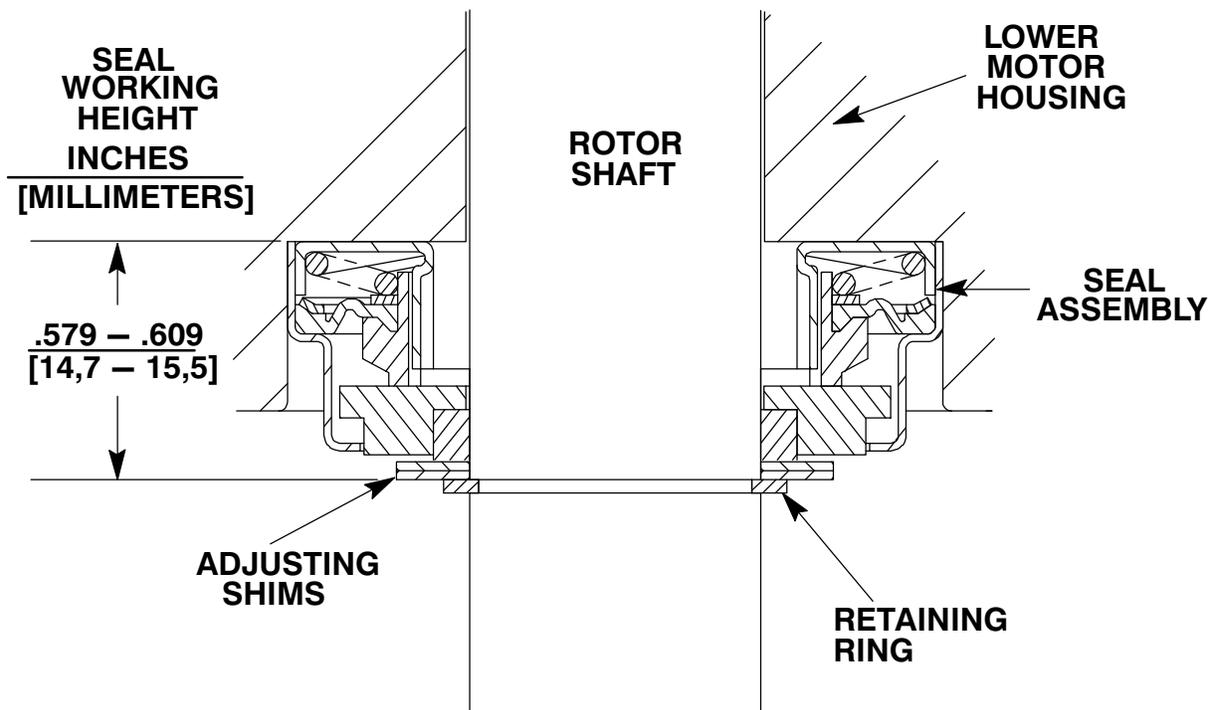

Figure C-2. Upper Seal Assembly
measured from the bottom of the bore in the intermediate to the motor side of the retaining ring (6). Select the required combination of shims to obtain a seal working height of 0.579 to 0.609 inches (14,7 to 15,5 mm) as shown in Figure C-2.